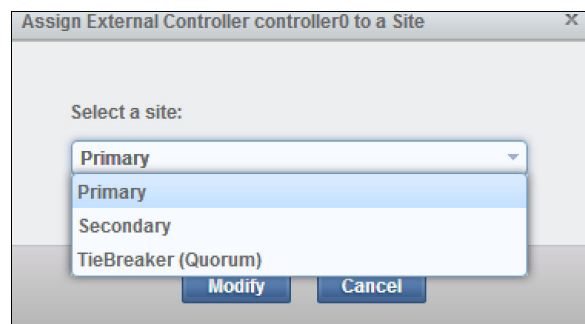

Figure 4-40 Site options provided to assign to an individual controller
7. Figure 4-40 shows the site options that you can assign to an individual controller. Assign each controller to the site corresponding to their physical location.